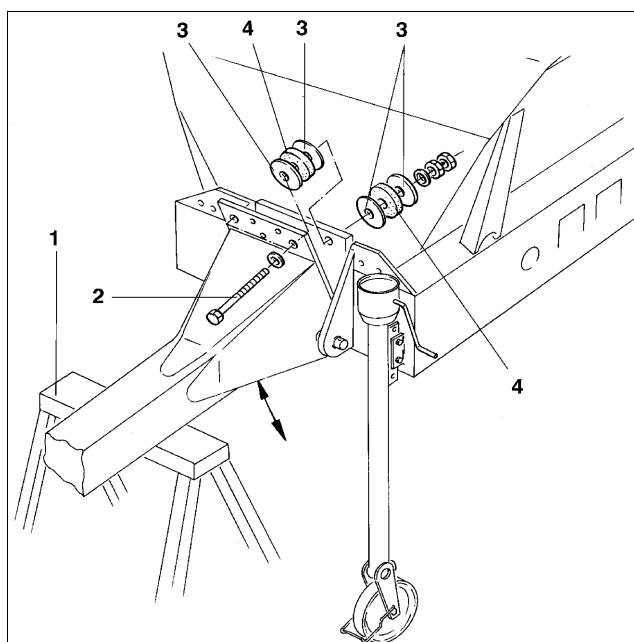

Fig. 9
- Rest the draw bar on a solid trestle (Fig. 9/1) and remove the two securing bolts (Fig. 9/2).
- By changing the position of both sets of spacing discs (Fig. 9/3) evenly, you can adjust the draw bar. The buffer discs (Fig. 9/4) must not be removed. They dampen the jolts transmitted from the tractor to the spreader.